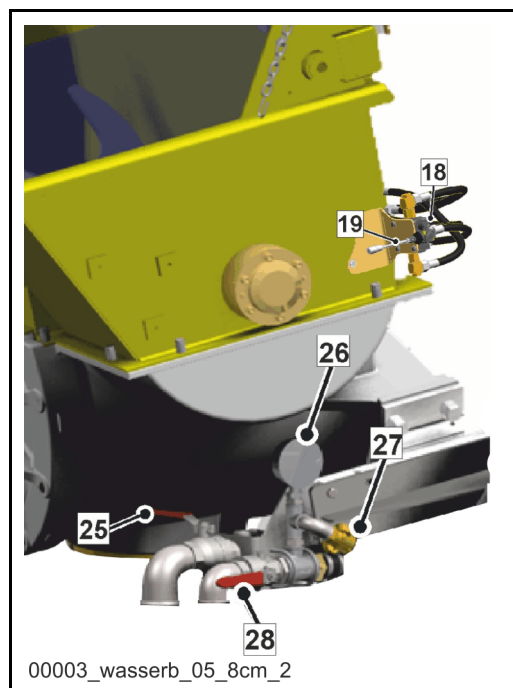

Fig. 207
6. Open the ball valve (25) (**Fig. 207**) to drain the water box.